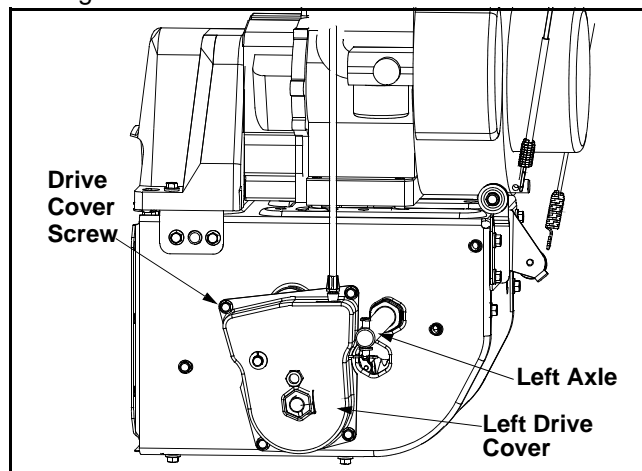

Figure 22
- Remove the four screws securing the left drive cover to the frame. Remove the drive cover. See Figure 22.